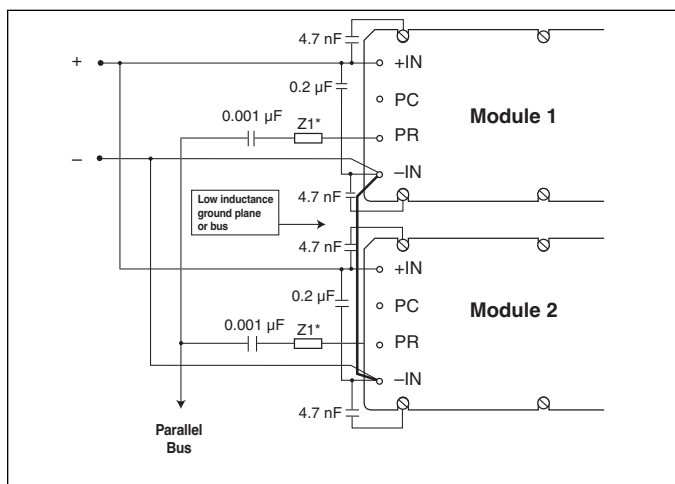

Figure 2-7 — AC coupled single-wire interface
2. AC-coupled single-wire interface: All PR pins are connected to a single communication bus through 0.001 μF (500 V) capacitors. This interface supports current sharing and is fault tolerant except for the communication bus. (Figure 2-7) This method may normally be used with a maximum of three converters.